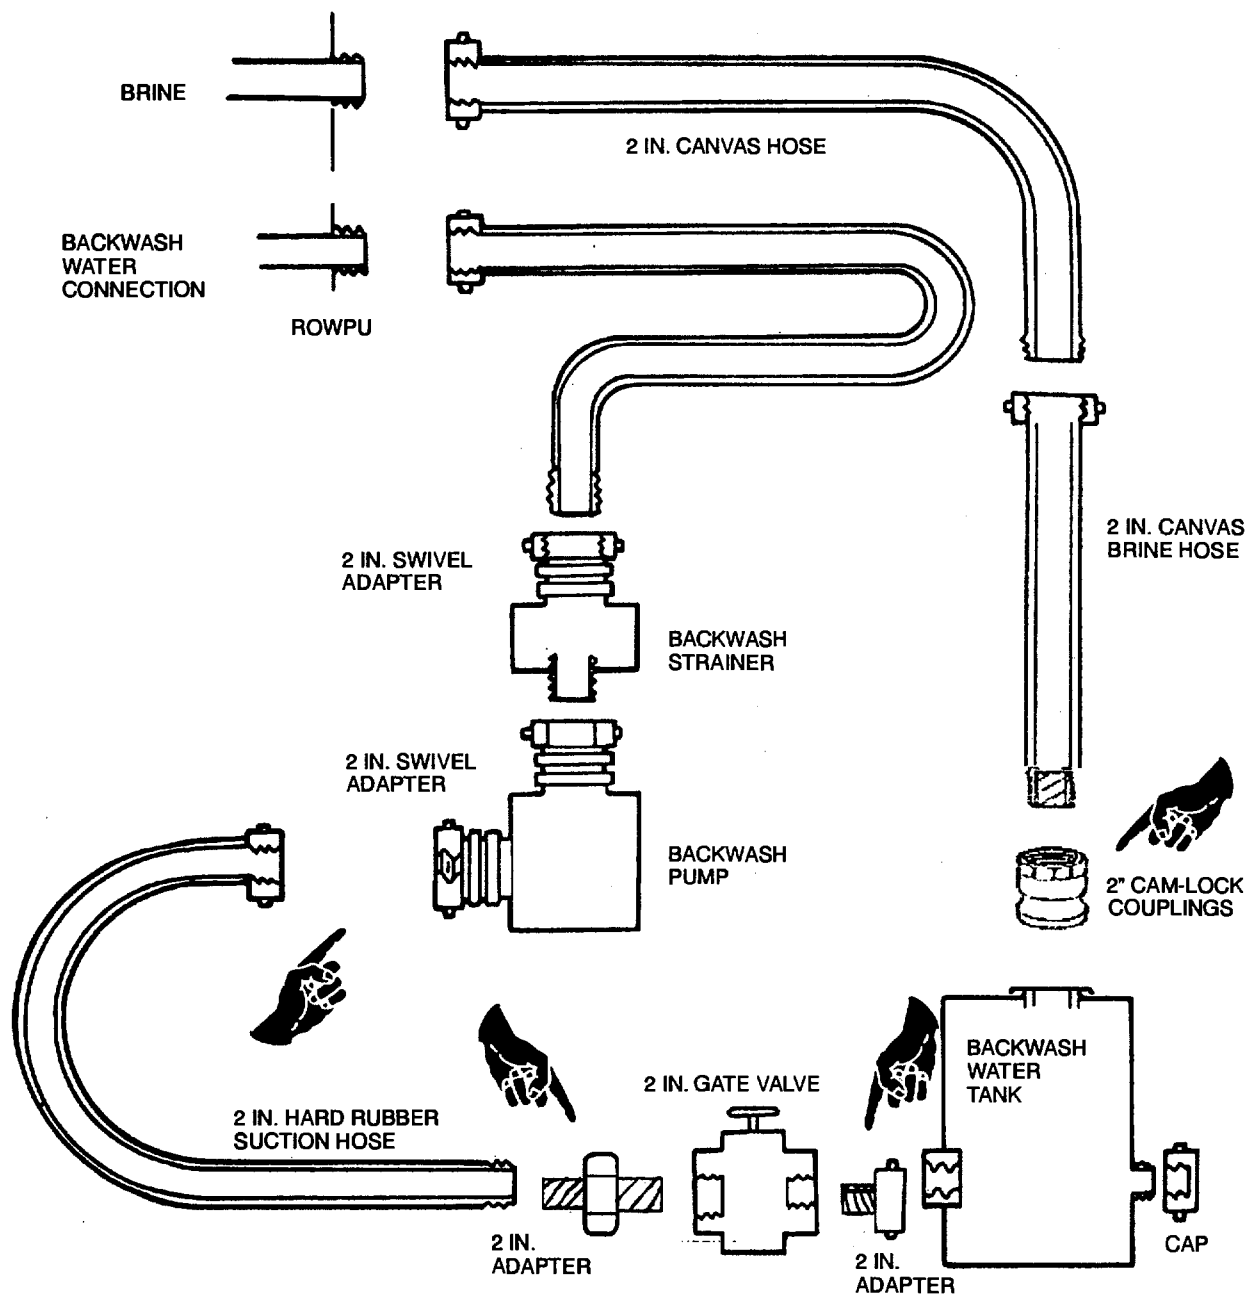

FIGURE 2-31. BACKWASH WATER SYSTEM
(15) (See figure 2-31) Using spanner wrench, connect the backwash water tank hose to suction side of backwash pump. Connect backwash water line to discharge side of backwash pump. Start at the ROWPU and work toward the tank in making connections.